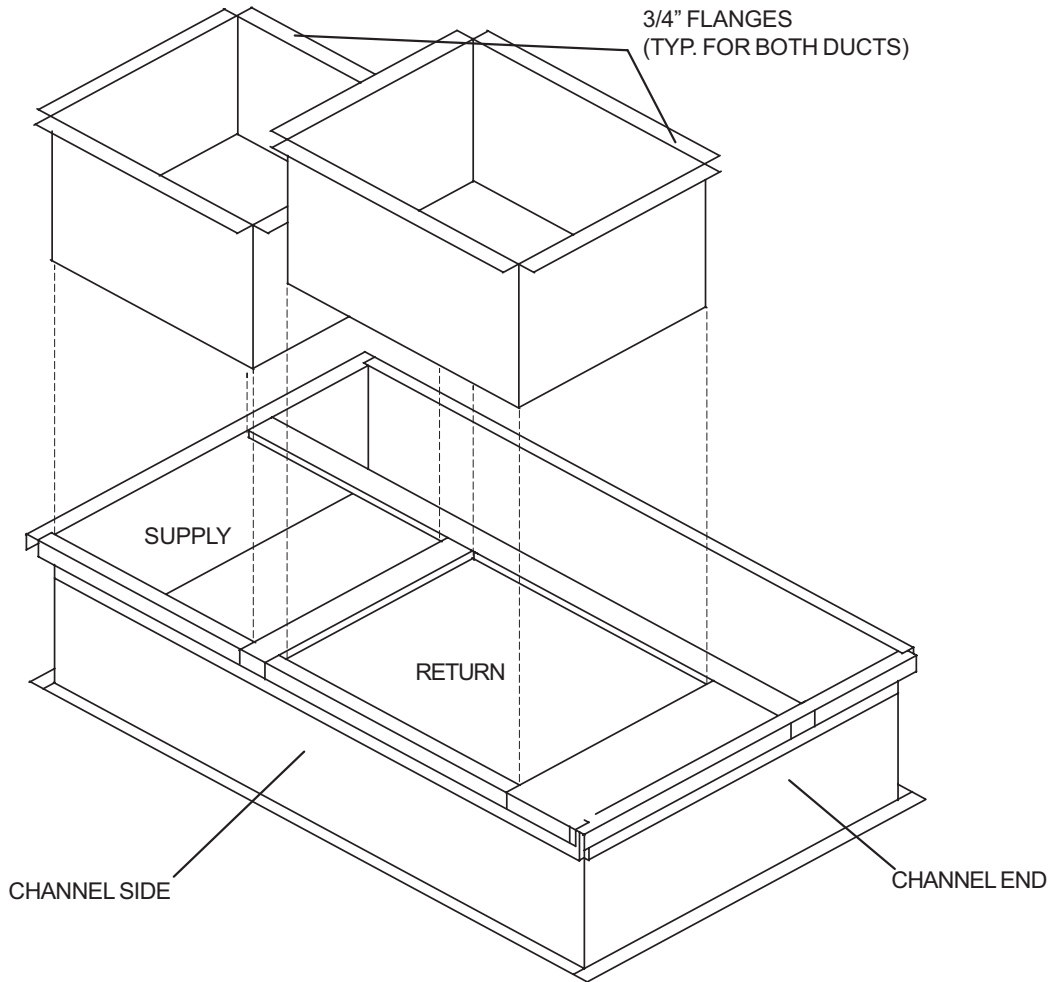

Figure 6. Roof Mounting Curb Field Fabricated (Side X Side) Ducts
- Field Fabricated Ducts are to be installed from above mounting curb, they should be installed at this time. See Figures 6 (page 6) and 7 (page 7) for installation illustrations.
Lower Field Fabricated Ducts into position on Duct Supports. See Figures 6 (below) and 7 (page 7). Make assembly secure with sheet metal screws.